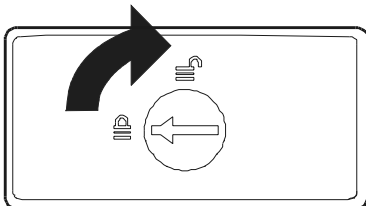

Figure 56 Door Lock
2. Use a flat-blade screwdriver to unlock and open the disk system door (see Figure 56).